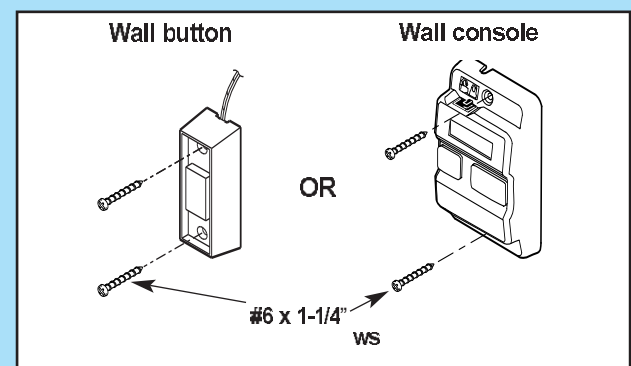

Fig. 4-2
- Mount wall control (Fig. 4-2).